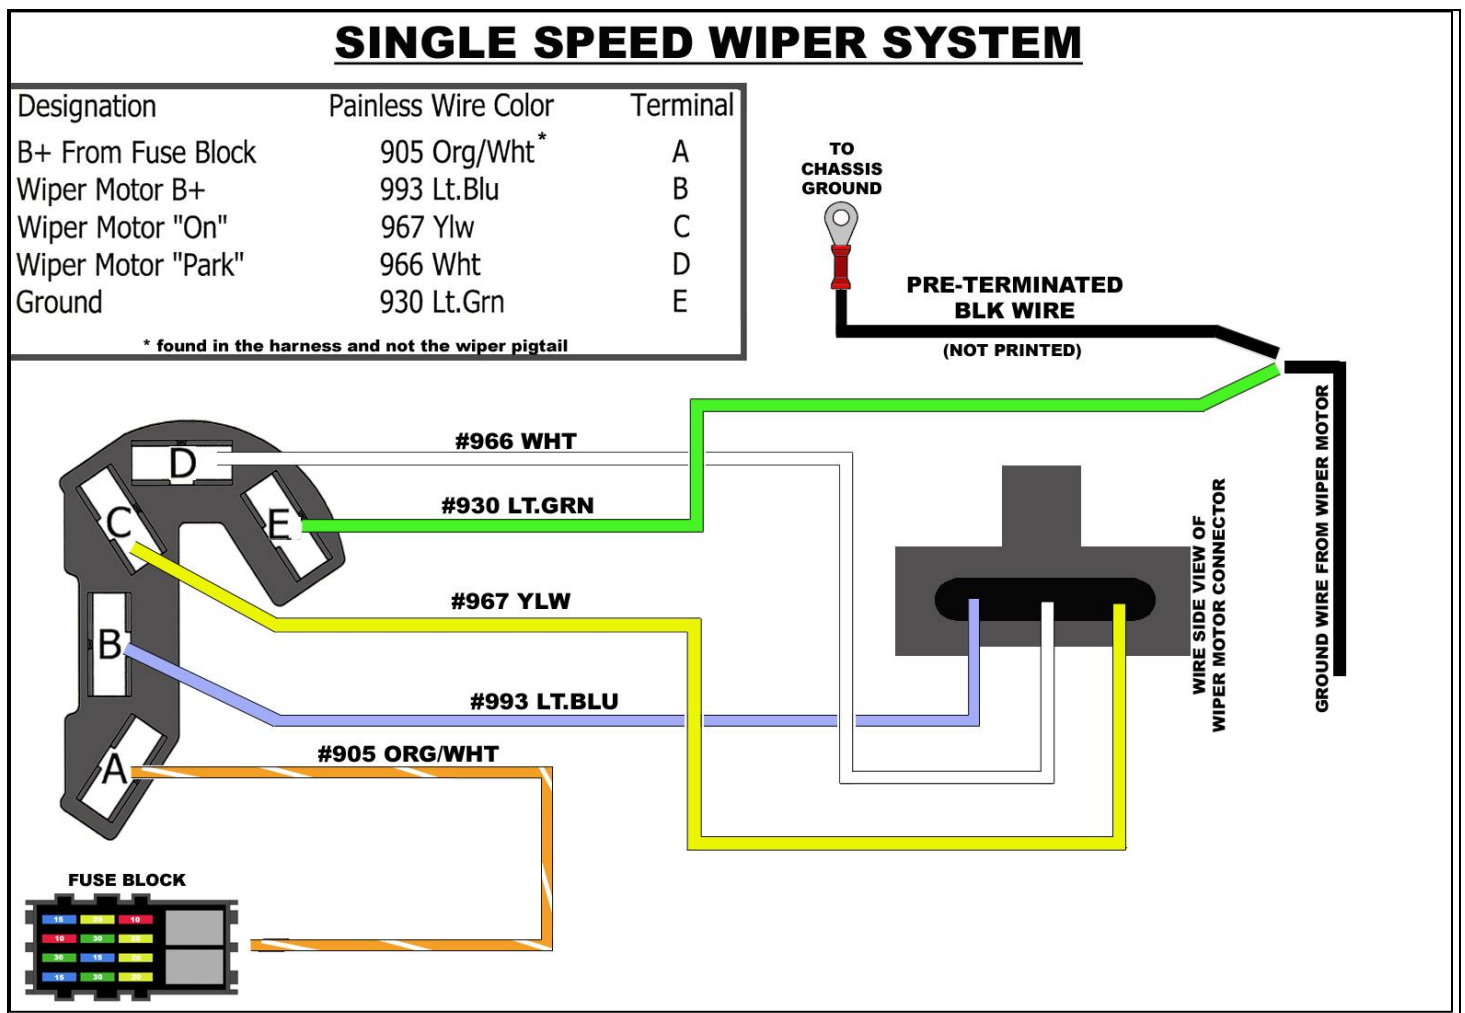

Figure 22 Single Speed Wiper Switch Connections (Wire Side View)
- Connect the wires of the WIPER SWITCH as indicated in **Figure 22**.
- Double #930 (lt.grn) with the opposite end of the Black wire and connect them to the Ground wire coming from the Wiper Motor as shown in **Figure 22**.